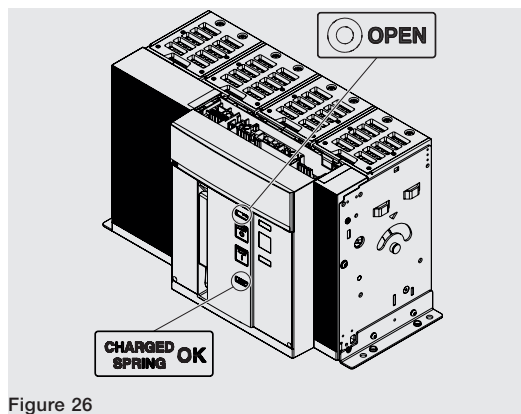

Figure 26
3. Check that the circuit-breaker is open (open/closed signalling device "O - OPEN"), and check that the springs are charged (springs signalling device "yellow - CHARGED SPRING") as indicated in Figure 26.